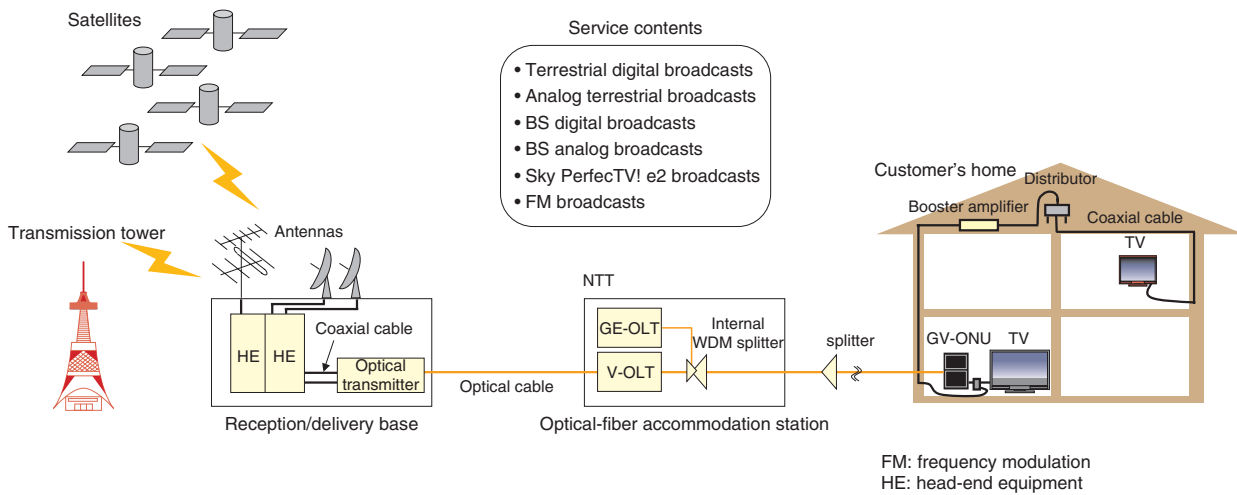

Fig. 1. FLET'S TV service model.
FLET'S TV is a video broadcasting service that enables users to receive various types of broadcasts such as terrestrial digital broadcasts and BS (broadcast satellite) digital broadcasts through broadcast services offered by OptiCast Inc. via the FLET'S HIKARI optical fiber broadband service available from NTT EAST and NTT WEST. The FLET'S TV service model is shown in **Fig. 1**. First, the reception/delivery base receives video signals from satellites and terrestrial transmission towers via antennas and passes them to an optical transmitter after subjecting them to level adjustment, noise filtering, and other processes at head-end equipment. Next, the optical transmitter converts these electrical video signals to an optical signal, and transmits it. Finally, the NTT optical-fiber accommodation station amplifies and splits this optical signal at the video optical line terminals (V-OLTs), optically multiplexes it with an optical signal conveying FLET'S HIKARI communication signals from a Gigabit Ethernet OLT (GE-OLT) using an internal wavelength division multiplexing (WDM) splitter, and transmits them to a customer's home over a single strand of optical fiber. At the customer's home, an optical network unit (ONU) converts the WDM optical signals back to electrical video and communication signals. This ONU (GV-ONU) combines a V-ONU with a GE-ONU. The video signals arrive at television (TV) sets in the home via various types of wiring and devices such as coaxial cables, booster amplifiers, distributors, and branching filters.